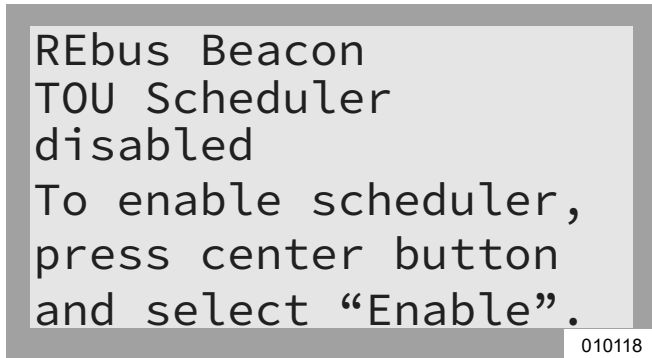

Figure 6-19. Enabling Beacon (1 of 2)
1. See Figure 6-19. Navigate to the Beacon device page and press the center button to enter the device menu.